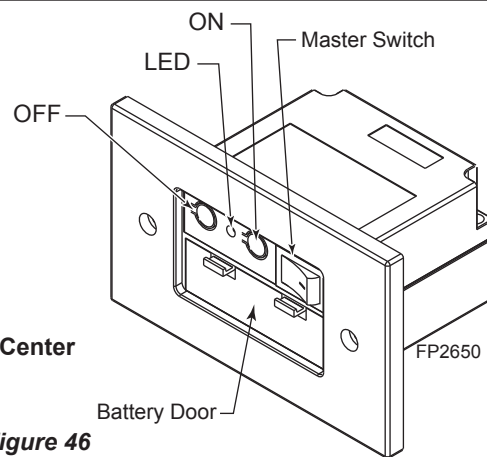

Figure 46
4. During the 10 seconds, press the OFF button on the transmitter to learn. Another two beeps will be given to confirm a successful learning. **Figure 46**